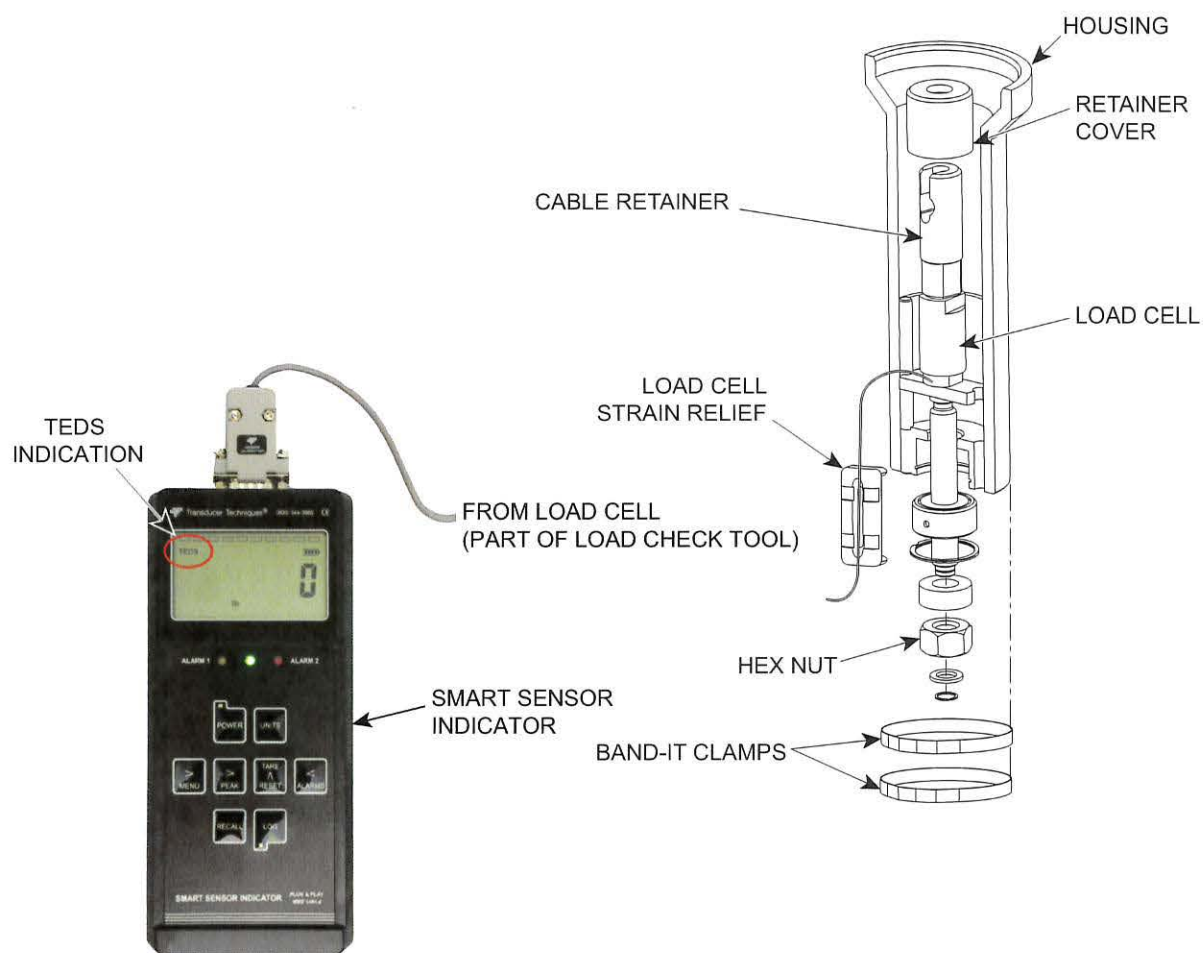

Figure 1-1. Field Load Check Tool
- C. The tension load cell is connected to a hand-held digital display (TEDS portable smart sensor indicator) compliant to IEEE 1451.4 which displays the measured load (see Figure 1-1).